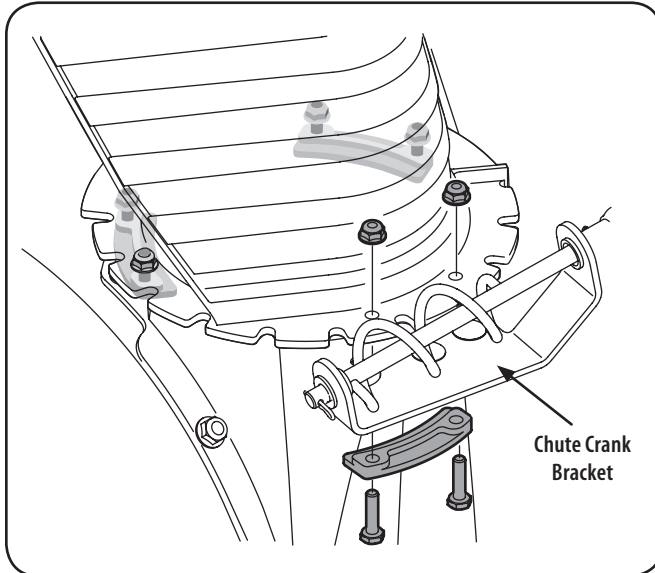

Figure 3-3
1. Loosen, but do not remove, the chute crank bracket in order to attach the chute assembly. See Figure 3-3.
2. Remove lock nuts and screws securing one of the flange keepers to the chute assembly. Loosen the fasteners of the other two flange keepers. See Figure 3-3.
4. Secure flange keeper removed earlier with lock nuts and screws. Tighten down nuts securing the other two flange keepers. See Figure 3-3.